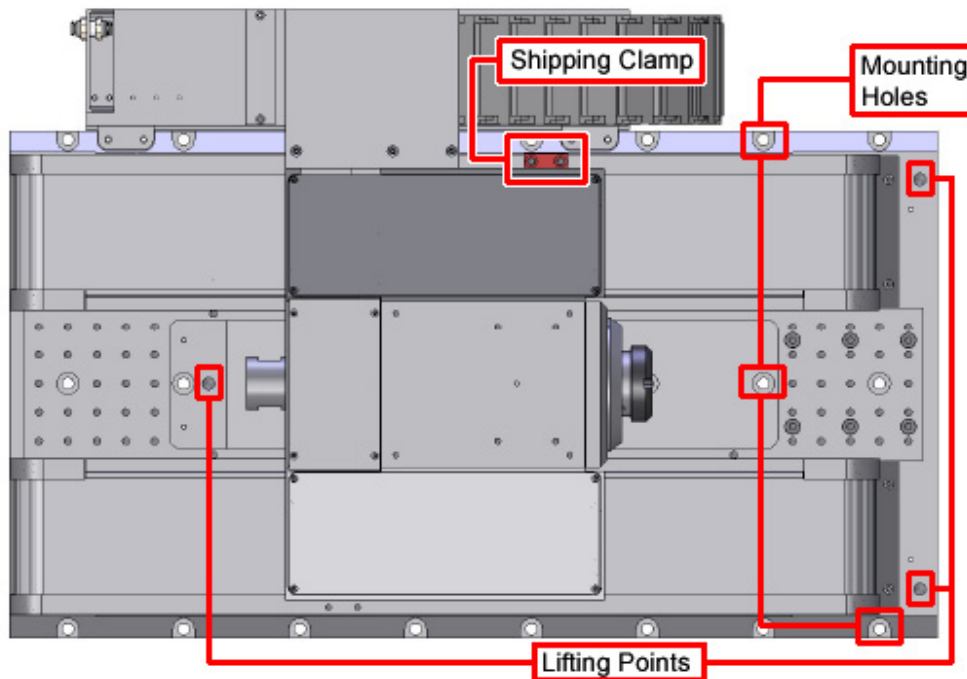
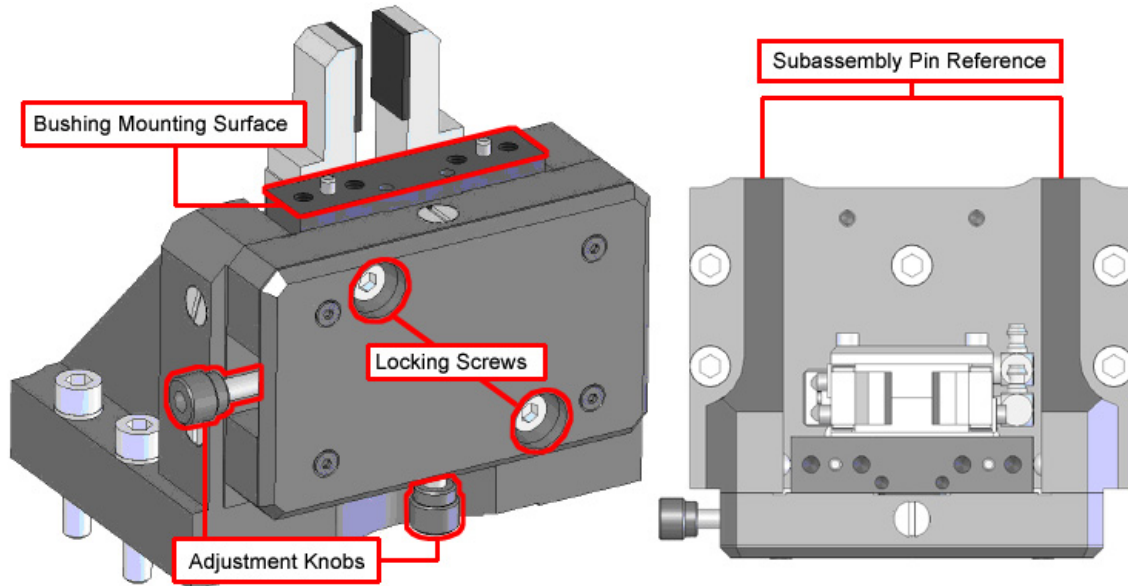

Figure 2-1: VascuLathe[®]-ACS Stage Showing Mounting Holes (Top View)
Figure 2-5: Alignment Gripper Detail
Secure the stage to the mounting surface with the M8 or 5/16 SHCS. If necessary, move the stage carriage to access the base plate mounting holes (refer to Figure 2-1).
This option equips the VascuLathe[®]-ACS system with a parallel gripper for automated tube advancement along with a Y/Z adjustment stage. The adjustment stage has a travel range of ± 0.75 mm to aid in the alignment of material support bushings (refer to Figure 2-5 and Figure 2-1).
Step 6: Loosen [QTY-2] M5 socket head (locking screws) shown in Figure 2-5 so that the alignment mechanism can be adjusted.